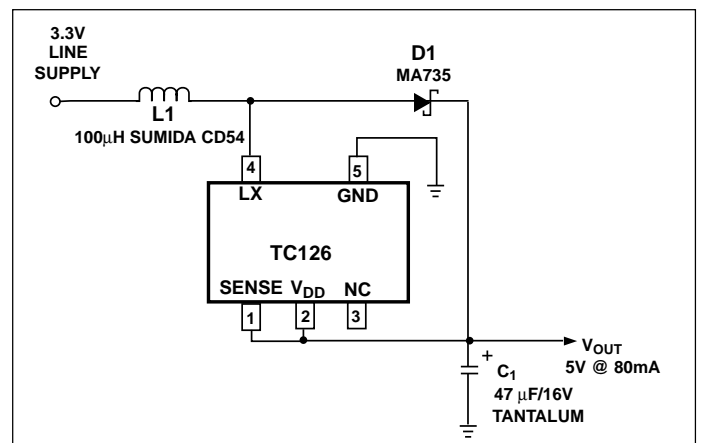

Figure 2. Typical TC126 Circuit
3. V_{DD} input tied to SENSE input for TC126, as shown in Figure 2.
The TC126 (Figure 2) is recommended for all applications not requiring shutdown mode. It has separate V_{DD} and SENSE inputs, allowing it to be powered from any source of 2.2V to 10V in the system. The V_{DD} input of the TC126 may be connected to the V_{IN}, V_{OUT}, or an external DC voltage. Lower values of V_{DD} result in lower supply current, but lower efficiency due to higher switch ON resistance. Higher V_{DD} values increase supply current, but drive the internal switching transistor harder (lowering R_{DS(ON)}), thereby increasing efficiency.